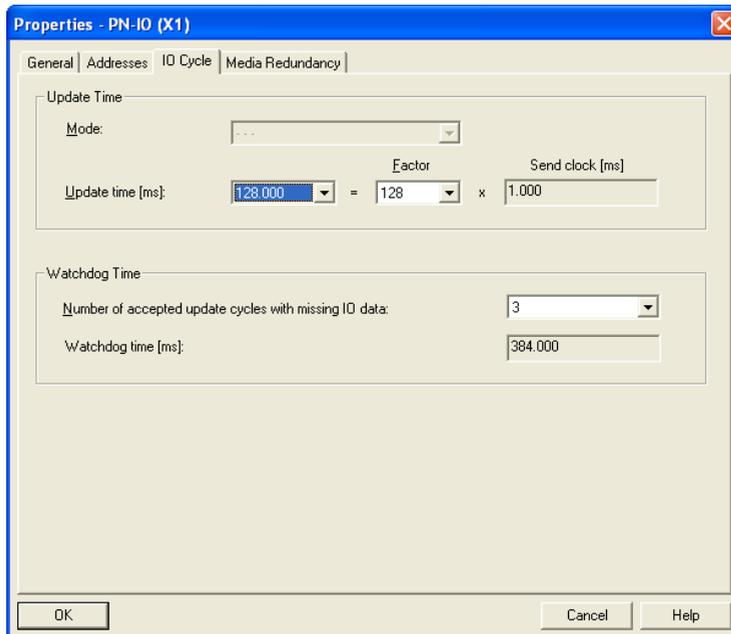

Figure 12: Dialog for entering the IO Cycle
- Under Update Time/Update time[ms]:, select the required update time (in ms) for the IO Cycle (see figure 12).
- Under Watchdog Time/Number of accepted update cycles with missing IO data, select the required number for the IO Cycle (see figure 12).